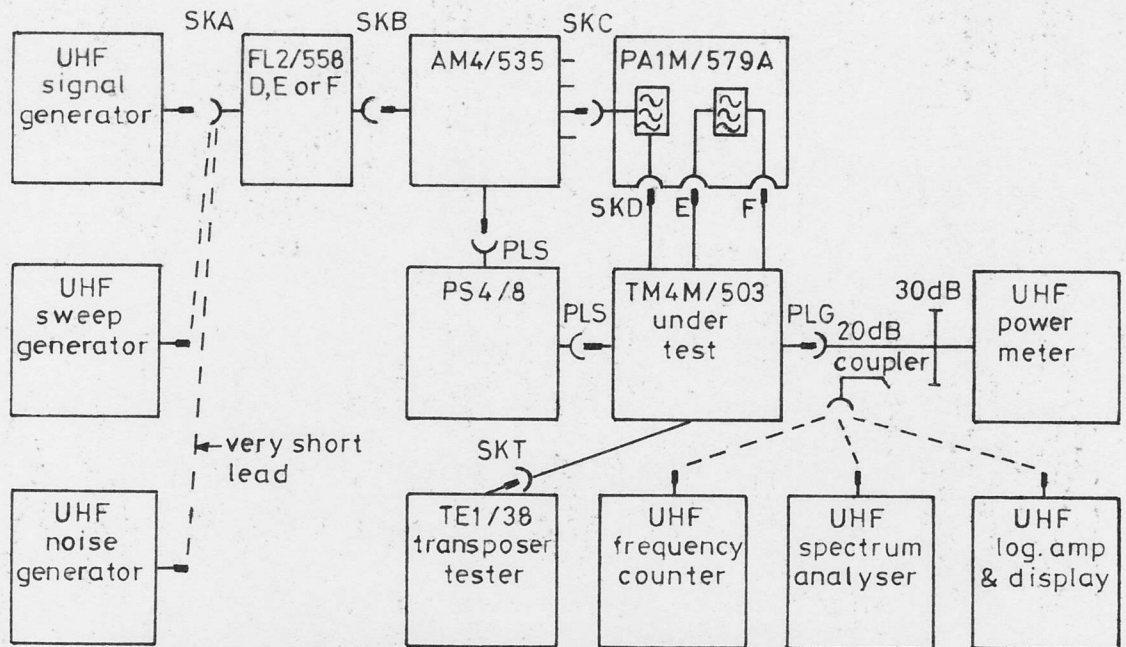

Figure 1. Test Arrangement
Connect the TM4M/403 as shown in Figure 1. The code switches in the TE1/38 must correspond with the channels selected by the filters in the PA1M/579A, but any convenient channel combination may be used. The loss between PLG and the power meter must be known to within an accuracy of  $\pm 0.2\text{dB}$  and allowed for in power measurements. All the coded units in the test arrangement must have passed their individual Production Test Schedules and they could be assembled in a TM4M/502 framework, but for better access to the TM4M/503 a horizontal bench mounting arrangement with the PA1M/579 under the TM4M/503 is recommended. The equipment must be left on for at least half an hour to warm up and stabilise before testing starts.
- 7.1.1 Set the controls on the TE1/38 to 'fixed slope', 'fixed power' and 'var. gain' with the gain control at maximum (fully clockwise). Set the signal generator to the input vision carrier frequency ( $\pm 20\text{kHz}$ ), with an output level of  $-63\text{dBm}$  and connect it to SKA. Connect a frequency counter to the output coupler shown in Fig. 1.
- 7.2.1 Set the level at SKA to -53dBm, connect a spectrum analyser to the output coupler as shown in Fig. 1 and check for spurious outputs.
Set the level at SKA to -43dBm and adjust the gain control on the TEL/38 until the 'power normal' LED is on the threshold of turning off. Replace the signal generator with the calibrated noise generator connected to SKA using a lead with less than 0.2dB loss. Connect the spectrum analyser to the coupler (Fig. 1) and set the controls as follows:-
- 7.5.1 Connect the three tone generator set to the appropriate input channel to SKA and connect the spectrum analyser to the coupler (Fig. 1). Adjust the relative levels of the three tones, then adjust the output level at PLG to be  $+33 \pm 0.2$ dB (PEP). Measure the IPs at  $f_v \pm 1.57$ MHz.